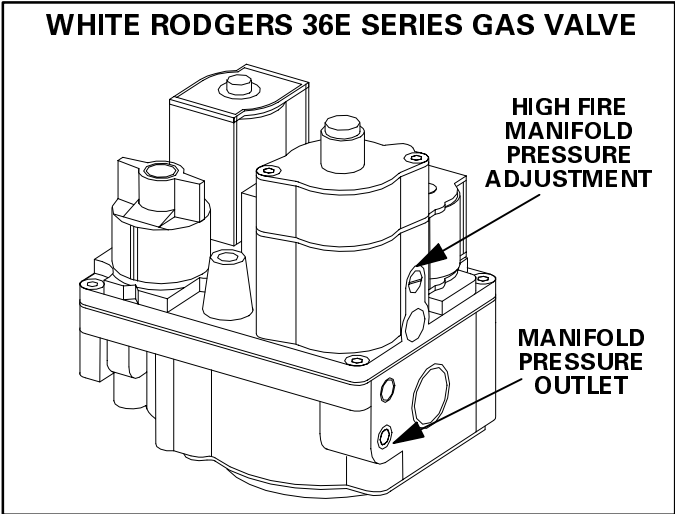

FIGURE 17
- 1 - Connect manometer to outlet pressure tap on gas valve (see figure 17 for outlet tap location). Start unit and allow 5 minutes for unit to reach steady state.